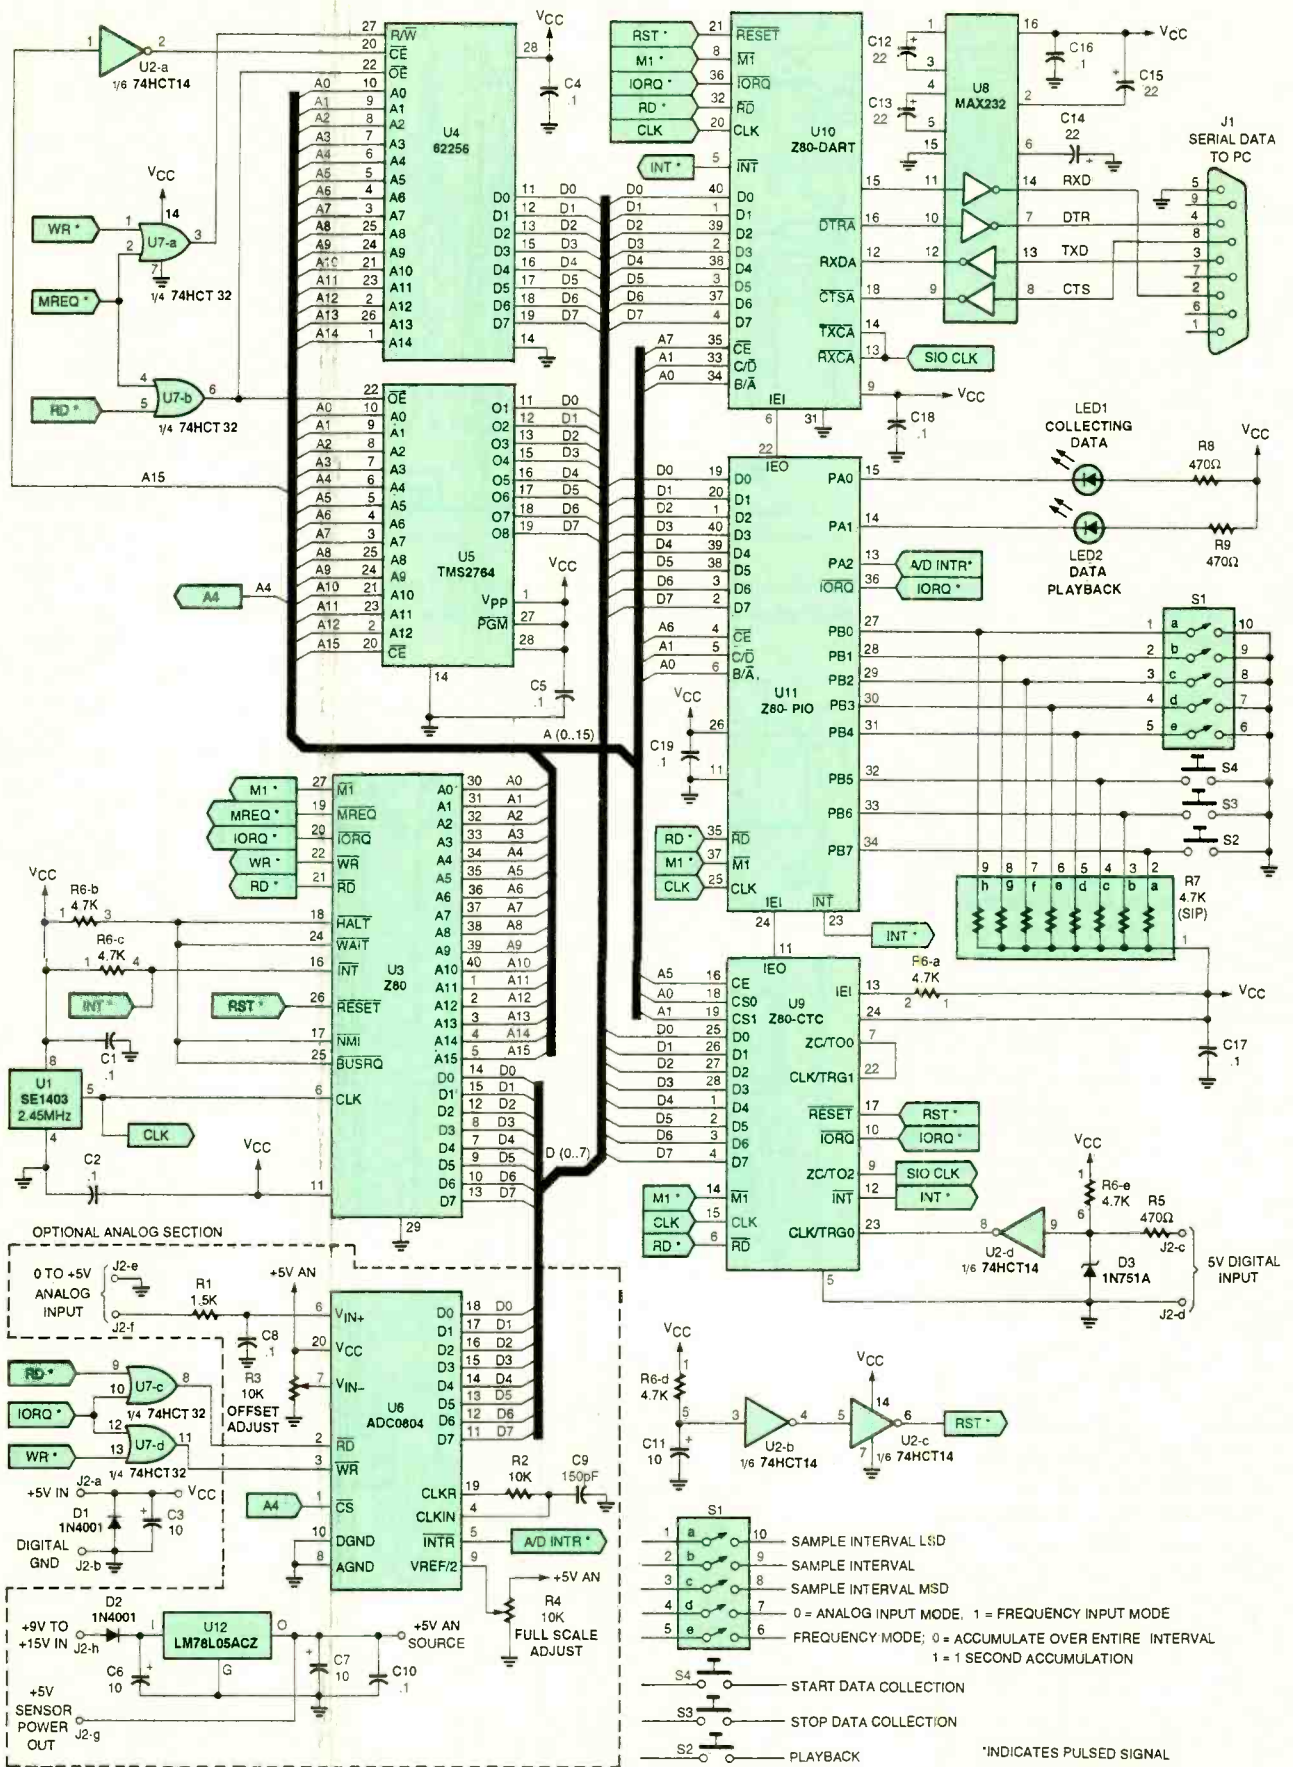

Fig. 2. Here's the schematic for the Versatile Data Logger.
About the Circuit. A schematic diagram of the Versatile Data Logger is shown in Fig. 2. The circuit is powered from a 5-volt power source that is connected to J2-a and J2-b. If analog inputs are to be used, an additional 9- to 15-volt source must be connected at J2-h. The 9 to 15-volt source connects to the 5-volt regulator, U12, and is used to supply power for the ADC, U6, and for the analog sensors. By using a separate regulator for the ADC, the effects of digital noise on the converter are minimized. Analog transducers with a 0- to 5-volt output are connected to J2-f and J2-e. To allow the circuit to be used with a wide variety of analog transducers, potentiometers R3 and R4 can be used to adjust the ADC-offset and full-scale settings, respectively.
1. Do you plan on using both analog and digital transducers? If yes, then you'll need to fully populate the circuit board with components. If, on the other hand, you plan to exclusively use the Data Logger with digital transducers, then you can omit the components in the Analog section shown in dotted lines in the lower left corner of Fig. 2.